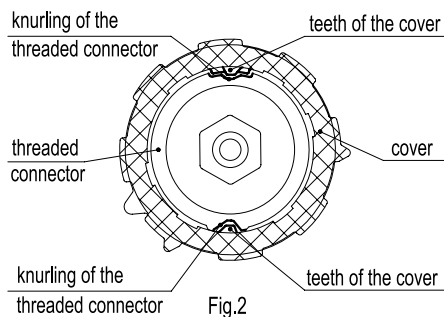

Fig.2
- 3) Fit the cover on the threaded connector by properly matching the two different teeth (different for shape) of the cover and the relevant knurling on the upper part of the threaded connector (Fig. 2). On this knurling there are two stop positions, where the teeth of the cover are fitted: one is for the breather closure and the other one is for the sealing closure.